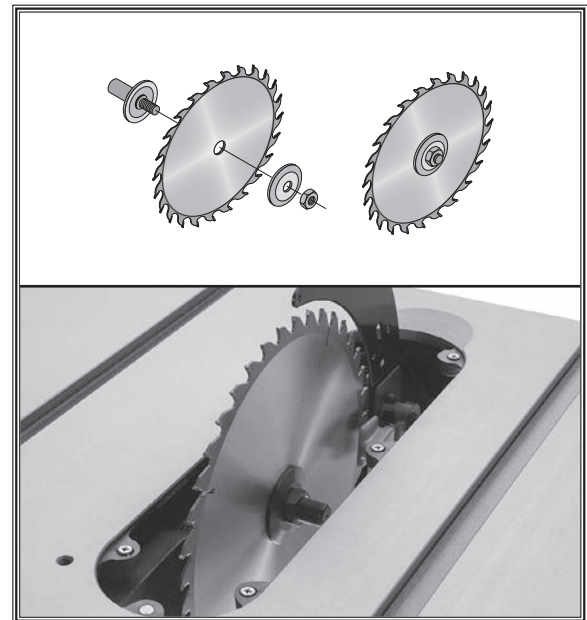

Figure 44. Correct order of installation with teeth facing the correct direction.
4. Install new blade, flange, and arbor nut on arbor (as shown in **Figure 44**) with teeth facing front of saw.